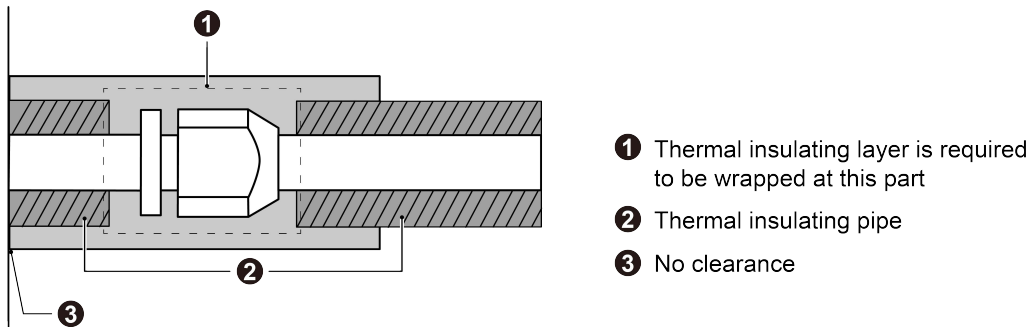

Fig.40
3) Joints at indoor and outdoor units should be wrapped with insulating material and leave no clearance between pipe and wall. See Fig.40.